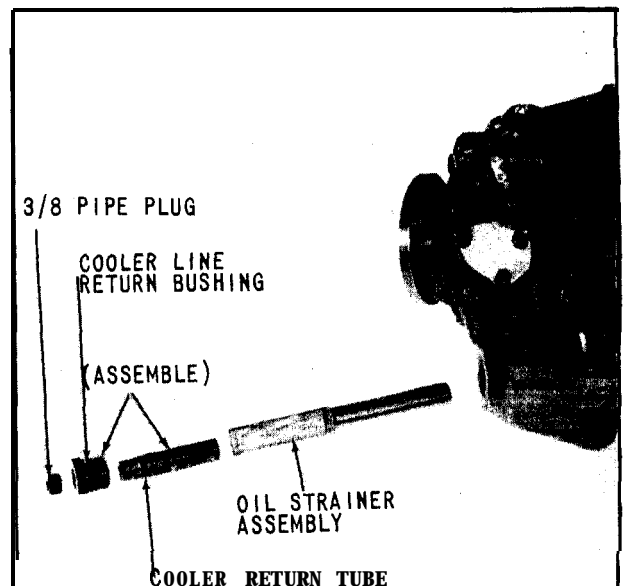
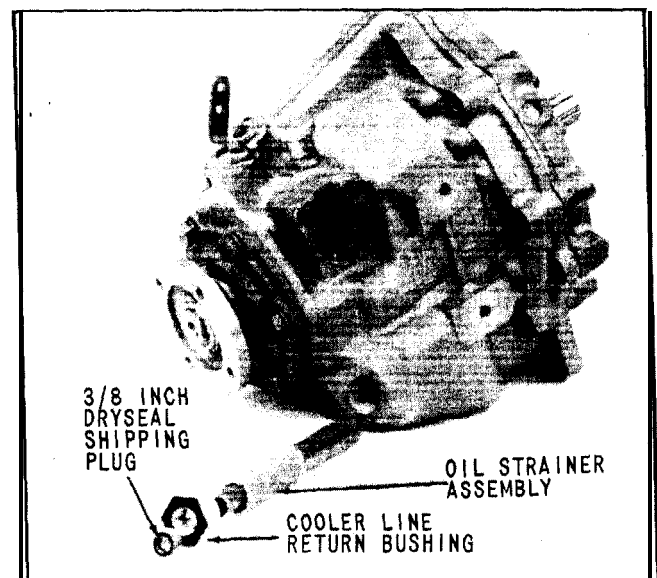

Fig. 77 Installing Oil Strainer & Cooler Return Tube & Bushing Assembly
Fig. 86 Installation of Oil Strainer Assembly and Cooler Line Return Bushing
77. Assemble the oil strainer assembly, cooler line return bushing and cooler return tube assembly in the order shown in (Fig. 77). The screen end of the oil strainer assembly should be approximately 1/2 inch below the face of the case when the assembly is correctly installed.
2. Assemble the oil strainer assembly (71B-A98) and cooler line return bushing (4885A) in the order shown in (Fig. 86). The small end of oil strainer assembly should protrude out of tapped hole in case approximately 1/16 inch when installed to full depth.
NOTE: Bushing (4885B) illustrated in (Fig. 77) as used with present oil strainer assembly, may be used with the old oil strainer assembly (71B-A98) shown in (Fig. 86). On the other hand, the old bushing (4885A) is not threaded the entire length of its internal thread. Therefore, it cannot be assembled with the cooler return tube (71C-84 shown in (Fig. 77). Either complete assembly of parts, illustrated in (Fig. 77) or (Fig. 86), can be used as they are interchangeable.